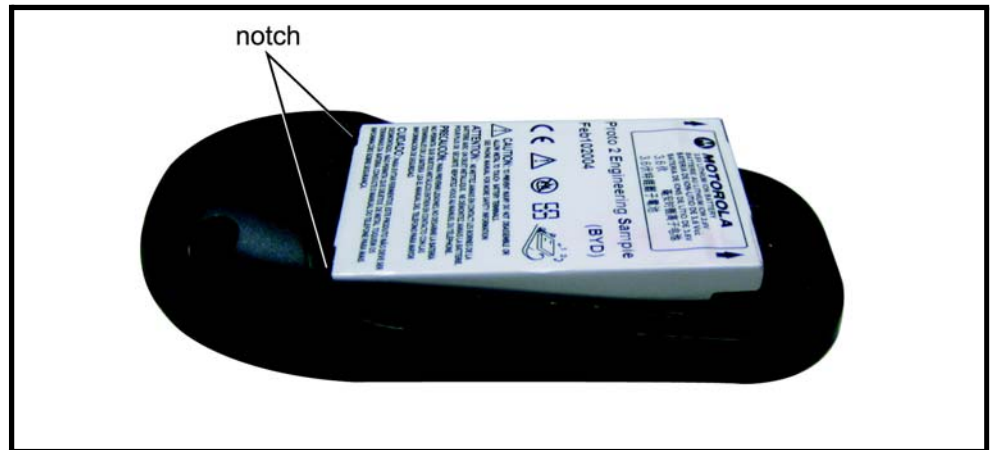

Figure 5. Replacing the Battery
3. To replace, insert the battery with 2 tabs on its bottom end into the battery slots of the phone as shown in Figure 5.